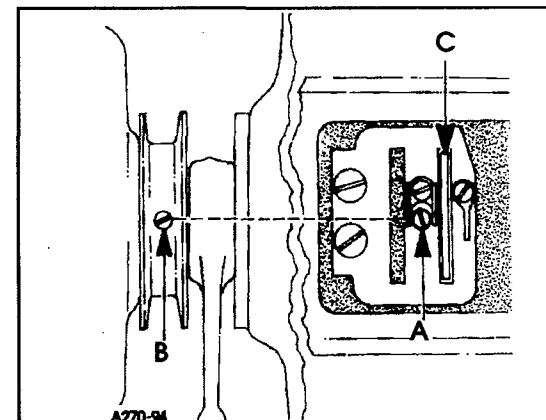

FIG. 20
With the machine rotating in operating direction the looper thread take-up is in time when the first screw coming into view (A, Fig. 20) is in line with the spot screw (B) on the main shaft in the pulley. NOTE: screw (A) is accessible through hole in the take-up. With this setting correct, the looper thread should cast off of the take-up (C) when the needles are safely in the triangle. If adjustment is necessary loosen two screws (A) in take-up (C) position screws in line with spot screw (B). Tighten screws (A).